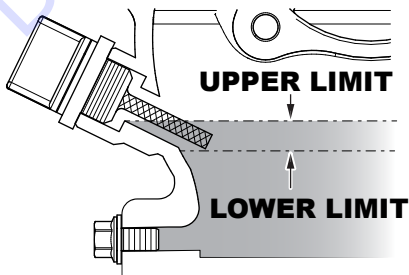

Figure 9. Engine Oil Dipstick(Oil Level)
4. If the oil level is low (Figure 9), fill to the edge of the oil filler hole with the recommended oil type (Table 7). Maximum oil capacity is 1.16 quarts (1.1 liters).